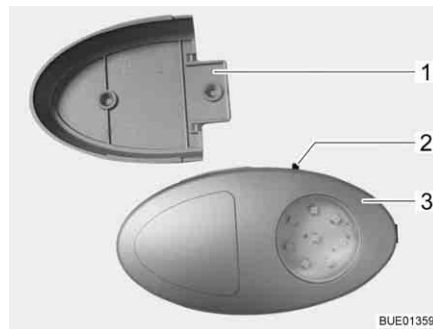

Fig. 56 Wardrobe light
- ▷ The wardrobe light can be removed from its holder (Fig. 56,1) and used as a torch.
The On/Off switch (Fig. 56,2) is located directly on the wardrobe light (Fig. 56,3).